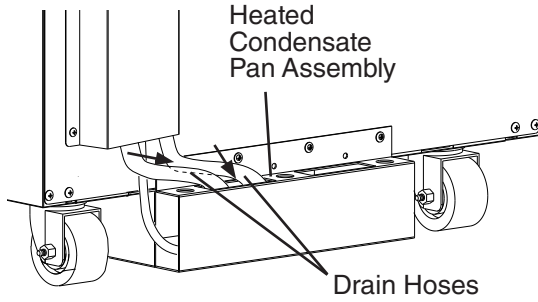

Fig. 7
- 6) Route the drain hoses into the heated condensate pan assembly. See Fig. 7.